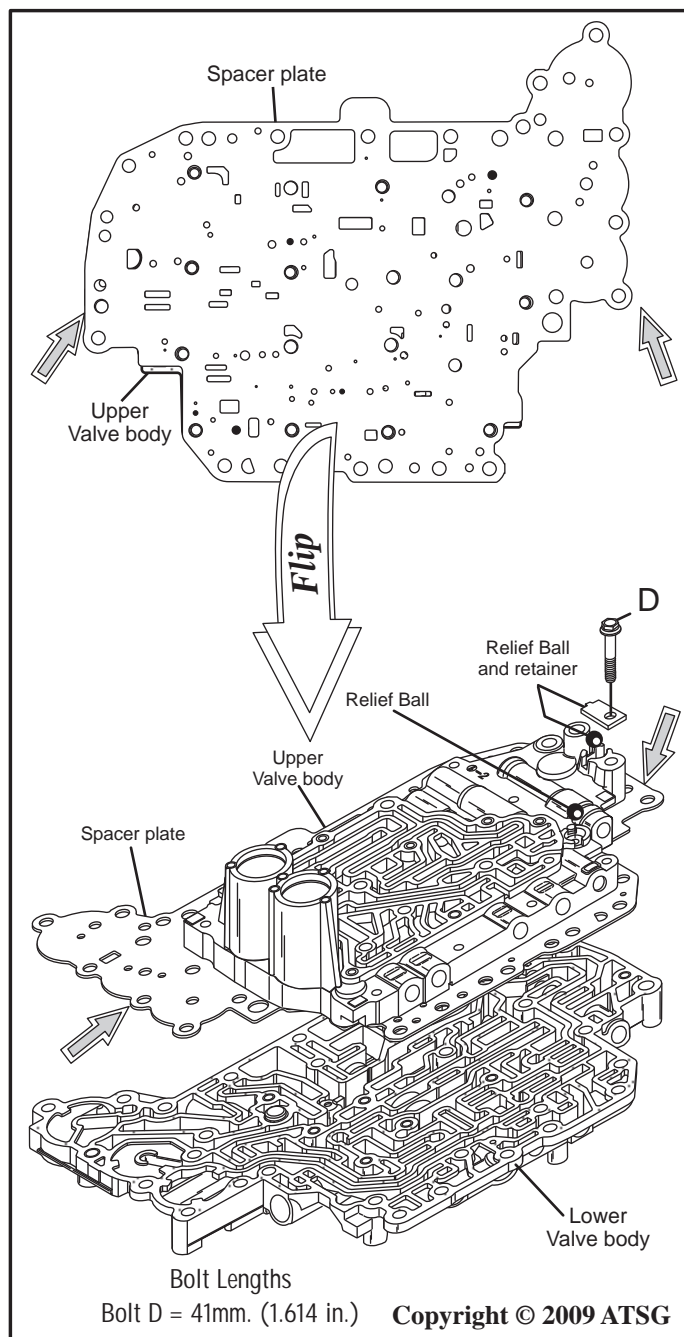

Figure 139
38. Place fingers on the spacer plate, where the two grey arrows are indicated, and thumbs on the upper valve body, retaining them together, as shown in Figure 139.
39. Flip the plate and valve body over and assemble it onto the Lower Valve body, as shown in Figure 139.
40. Install the two 10 mm relief balls into the upper valve body as shown in Figure 139.
41. Install the retainer and the bolt identified with the letter "D" as shown in Figure 139, but do not torque at this time.